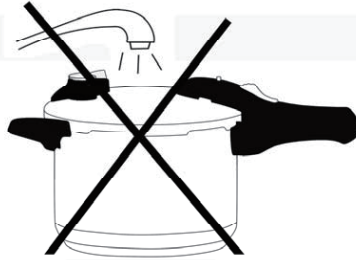

Figure 13
(1) Cooling after cooking
- Do not cool the cooker with running water (Figure 13).